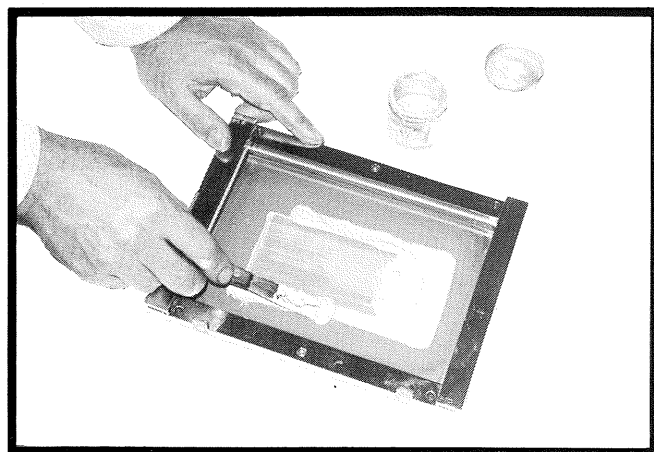

Fig 46
- D 7 Using a palette (or push) knife, remove excess printing medium from screen and replace in container (Fig 46).